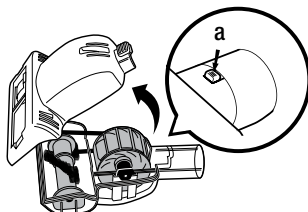

Fig. 25
- 1 Slide the locking latch **(a)** forward and tilt the bottom cover upward to remove. **(Fig. 25)**